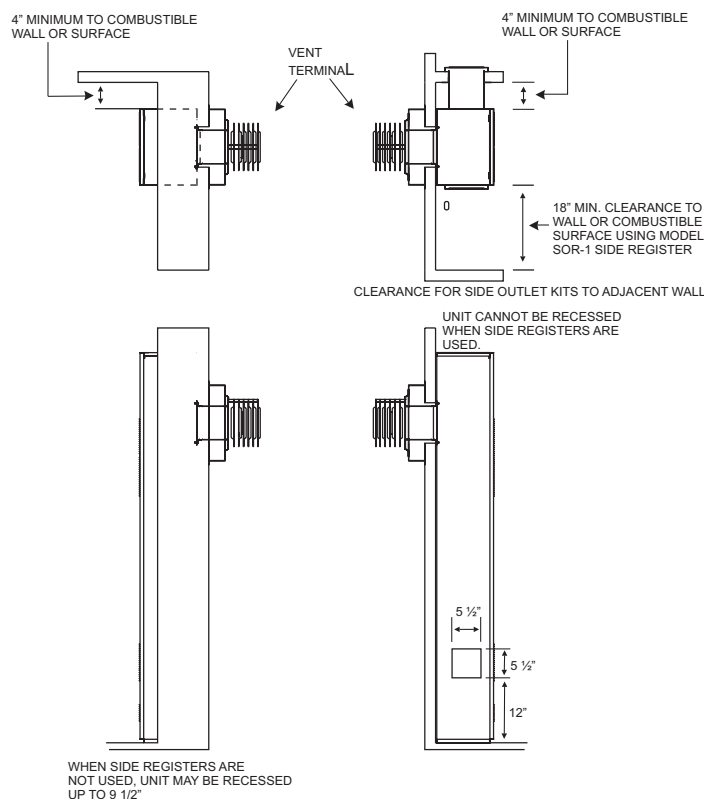

Figure 6
**Side outlet register, SOR-1** may be installed on one or both sides of the furnace at the required clearances of 18" to adjacent wall or combustible material as shown in Figure 6.
3. Remove the two (2) 8 x 3/8" screws that attach the inner shield cover plate to the inner shield.
6. Insert the 5" x 5" inner boot through the outer casing. Align the clearance holes on the inner boot with the screw holes on the inner shield. Attach inner boot to inner shield with two (2) 8 x 3/8" screws removed in Step 3.
8. Drill two (2) 1/8" diameter holes in cabinet side and attach the register with two (2) 10 x 1" provided screws.
**Side outlet kit, SOK-1**, 10" boot assembly with register, for warm air discharge into an adjoining room may be installed on either side of the furnace at the required clearance of 4" to adjacent wall as shown in Figure 6.